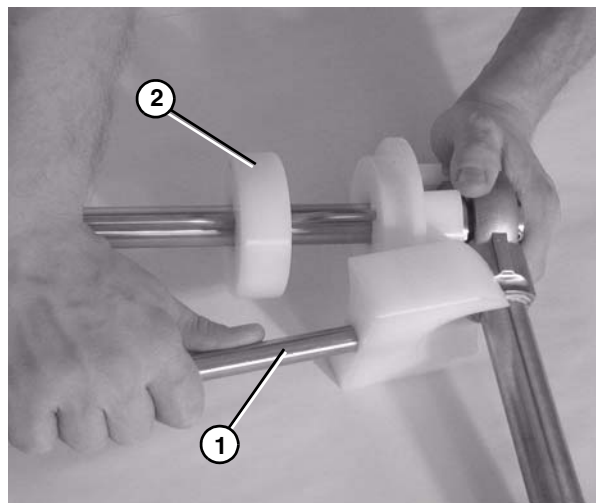

Figure 69
6. Remove the guard bar (Figure 69, item 1).
7. Remove the pucks (Figure 69, item 2).